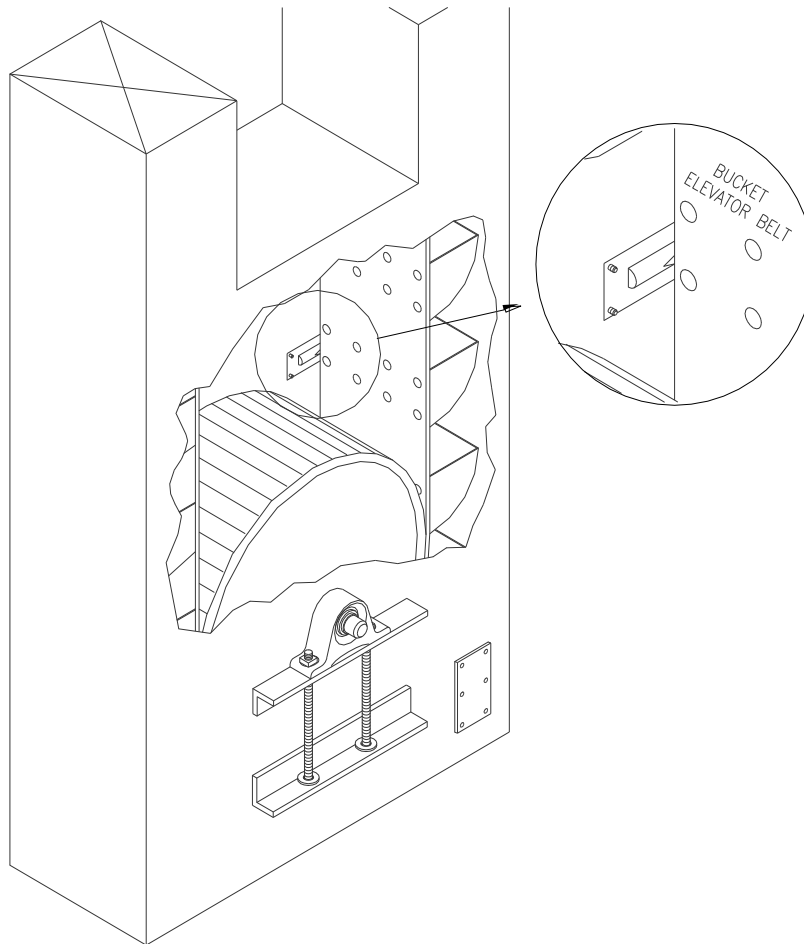
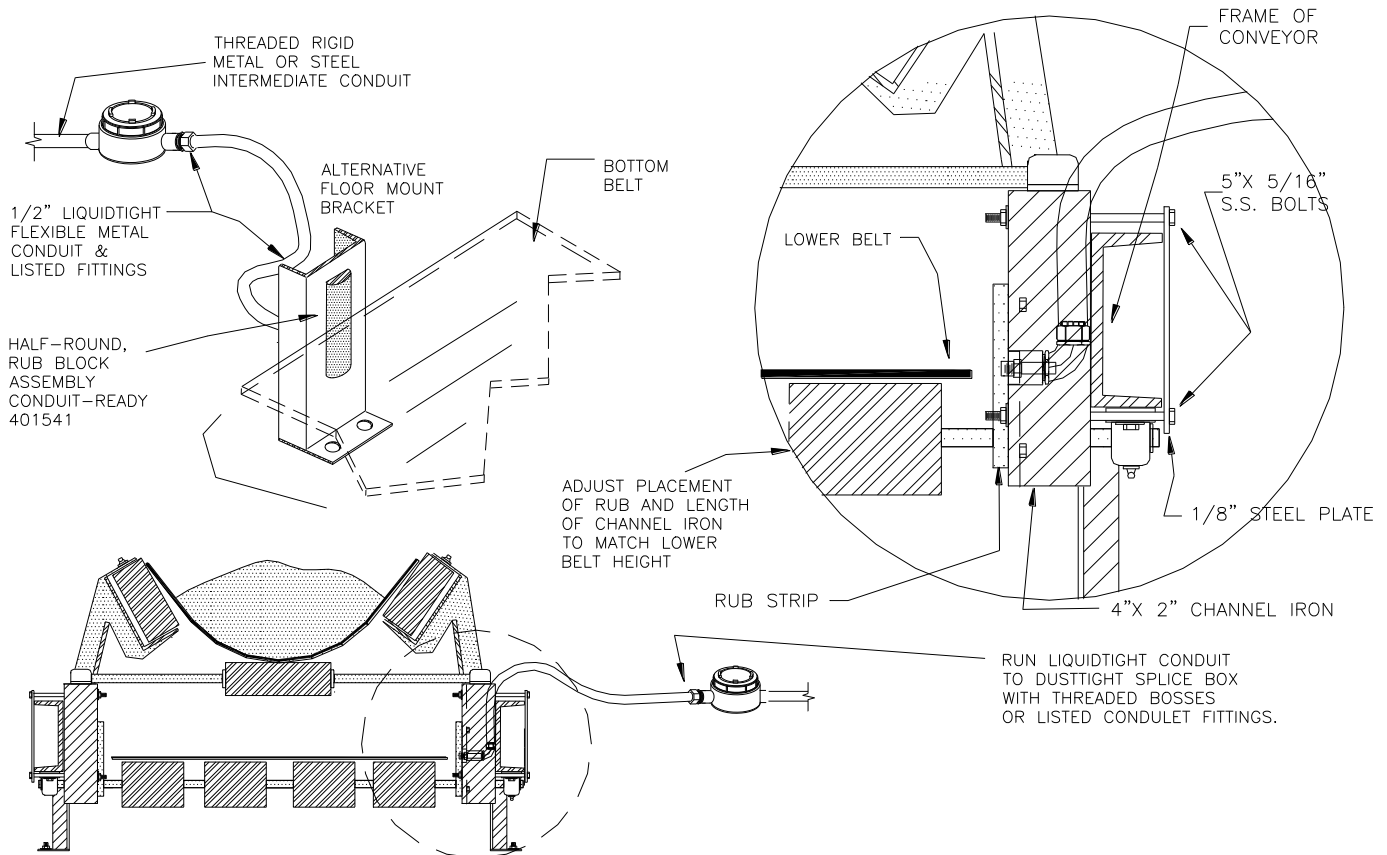

Figure 15. Rub Sensor
Figure 20. Rub Mounted on an Open Frame Conveyor
**4.6.1.2.5.** Next take the appropriate template provided, see Figure 20. and place it against the leg casing in alignment with the vertical and horizontal alignment marks that you have made previously in steps one and two. Dashed lines have been provided on the template for this purpose. The template is the exact size of the rub mounting plate to aid you in locating the rub away from obstructions. Minor adjustments can be made so long as the belt will still contact the brass portion of the rub fully should it track out of alignment. The location of the brass rub is indicated by the 5-1/8" x 1-1/4" cutout on the 3" x 8" template. You can use these as guides if minor adjustments are necessary. In some cases, you may have to relocate the rub altogether to find a flush mounting location that still lines up with the belt. (See Figure 15). The template is punched so that you can use it to mark out the mounting holes for the rub as well.
4.6.1.3.1. In some cases, it is desirable to mount rub blocks on open frame conveyors. Some suggestions on possible mounting configurations can be found in figure 20.